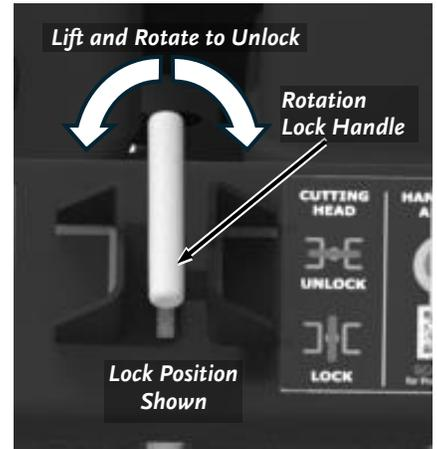

Figure 14
6. Pull up on the Rotation Lock Handle and rotate it 90 degrees, then release it into the detent position. This will allow the top half of the machine to rotate in an Unlocked Position, while the Wheels remain fixed (**Figure 14**).
9. Pull up on the Rotation Lock Handle and rotate it back 90 degrees and release it back into the Lock Position (**Figure 14**).